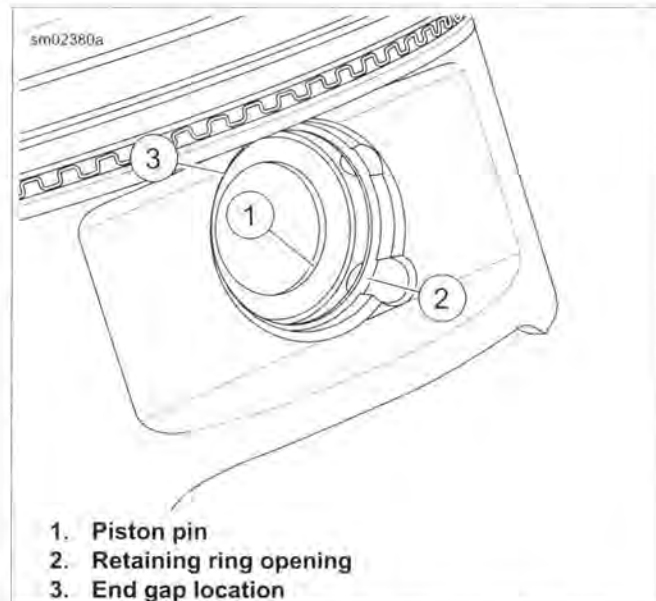

Figure 3-61. Pre-Installed Retaining Ring
2. See Figure 3-61 Install one **new** piston pin retaining ring with the PISTON PIN RETAINING RING INSTALLER (Part No. HD-42317-A).
6. See Figure 3-61. Insert piston pin (1) through pin bore and upper connecting rod bore. Push pin until it contacts retaining ring installed in opposite pin boss. Verify that end gap (3) for retaining ring is 180 degrees from opening (2).